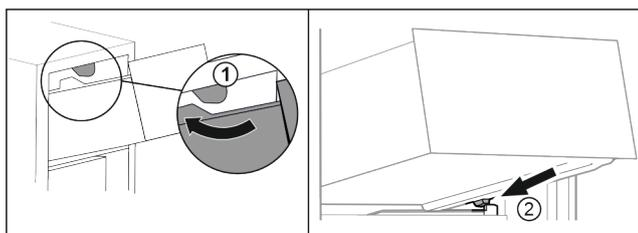

Fig. 21
- ▶ Guide the drawer around the upper stoppers Fig. 21 (1).
- ▶ Place the drawer on the moulded ribs behind the lower stoppers with the drawer tilted up at the front Fig. 21 (2).